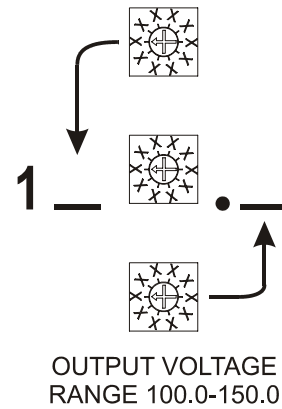

Figure 8.1
The battery charger is adjustable with the three rotary switches on the front of the charger. The switches (settable between 100.0 and 150.0) determine the float voltage for the batteries. **SET THE FLOAT VOLTAGE TO THE BATTERY MANUFACTURER'S SPECIFIED VOLTAGE FOR 77°F.** The charger will then electronically charge the batteries to the voltage specified on the switches. To set the switches, use a small screwdriver and turn the switch so that the arrowhead on the slot is pointing to the desired number. Set the switches in the following manner: If the desired battery voltage is 122.6 volts, set the top switch to 2, the middle switch to 2, and the bottom switch to 6 (see the figure 8.1). This will provide you with the proper charging voltage. The hundreds digit is always a one (1) and cannot be changed. **BE SURE EACH SWITCH IS SET ON A NUMBER AND NOT BETWEEN NUMBERS.** If a switch is set between numbers, the output current will go to zero and the yellow charging LED will flash.